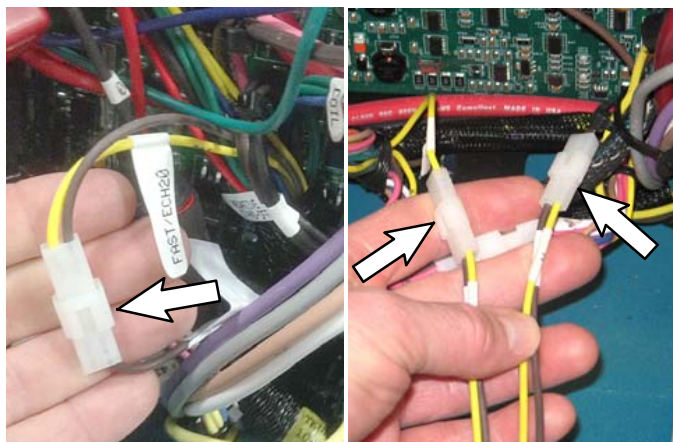

FIG. 17
18. **Machines with ec-H2O:** Locate the main FaST/ec-H2O harness connector within the circuit board area. Disconnect the wire connection and connect the the two brown and yellow wire connectors from telemetry harness (FIG. 17).